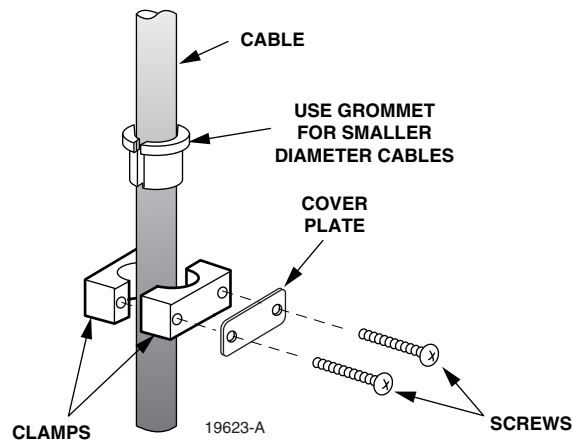

Figure 21. Cable Clamp Assembly for Distribution Cable
6. Assemble the clamps (and grommet if required) on the cable as shown in Figure 21 and then secure the cable to cabinet at the clamping position selected in step 4.